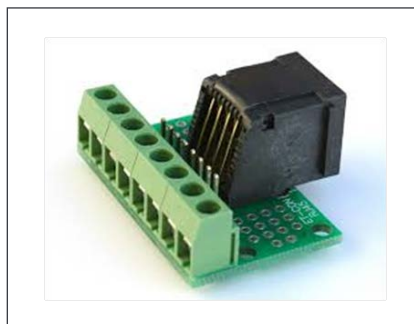

Fig 2: Adapter for RJ45
- RJ45-TERM (Gravitech.us) Fig 2